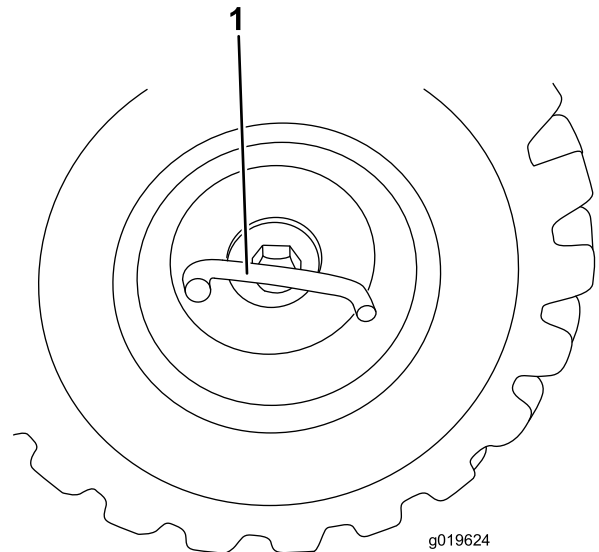

Figure 16
2. Remove the large tee bolt in the center of the wheel with a crow bar (Figure 16).